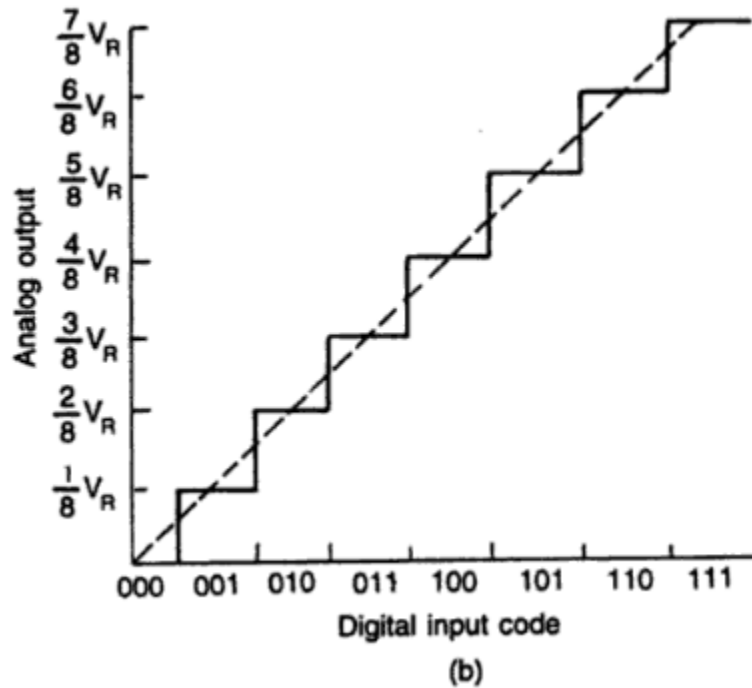

Fig. 5.1.1(a) A simple weighted resistor DAC (b) Transfer characteristics of a 3-bit DAC
One of the simplest circuits is shown in Fig. 5.1.1(a) uses a summing amplifier with a binary weighted resistor network. It has n - electronic switches $d_1 d_2 \dots d_n$ controlled by binary input word. These switches are single pole double throw (SPDT) type. If the binary input to a particular switch is 1, it connects the resistance to the reference voltage ($-V_R$). And if the input bit is 0, the switch connects the resistor to the ground. From Fig. 5.1.1(a), the output current I_o for an ideal op-amp can be written as
The circuit shown in Fig. 5.1.1(a) uses a negative reference voltage. The analog output voltage is therefore positive staircase as shown in Fig. 5.1.1(b) for a 3-bit weighted resistor DAC. It may be noted that
- ✓ Although the op-amp in Fig. 5.1.1(a) is connected in inverting mode, it can also be connected in non-inverting mode.